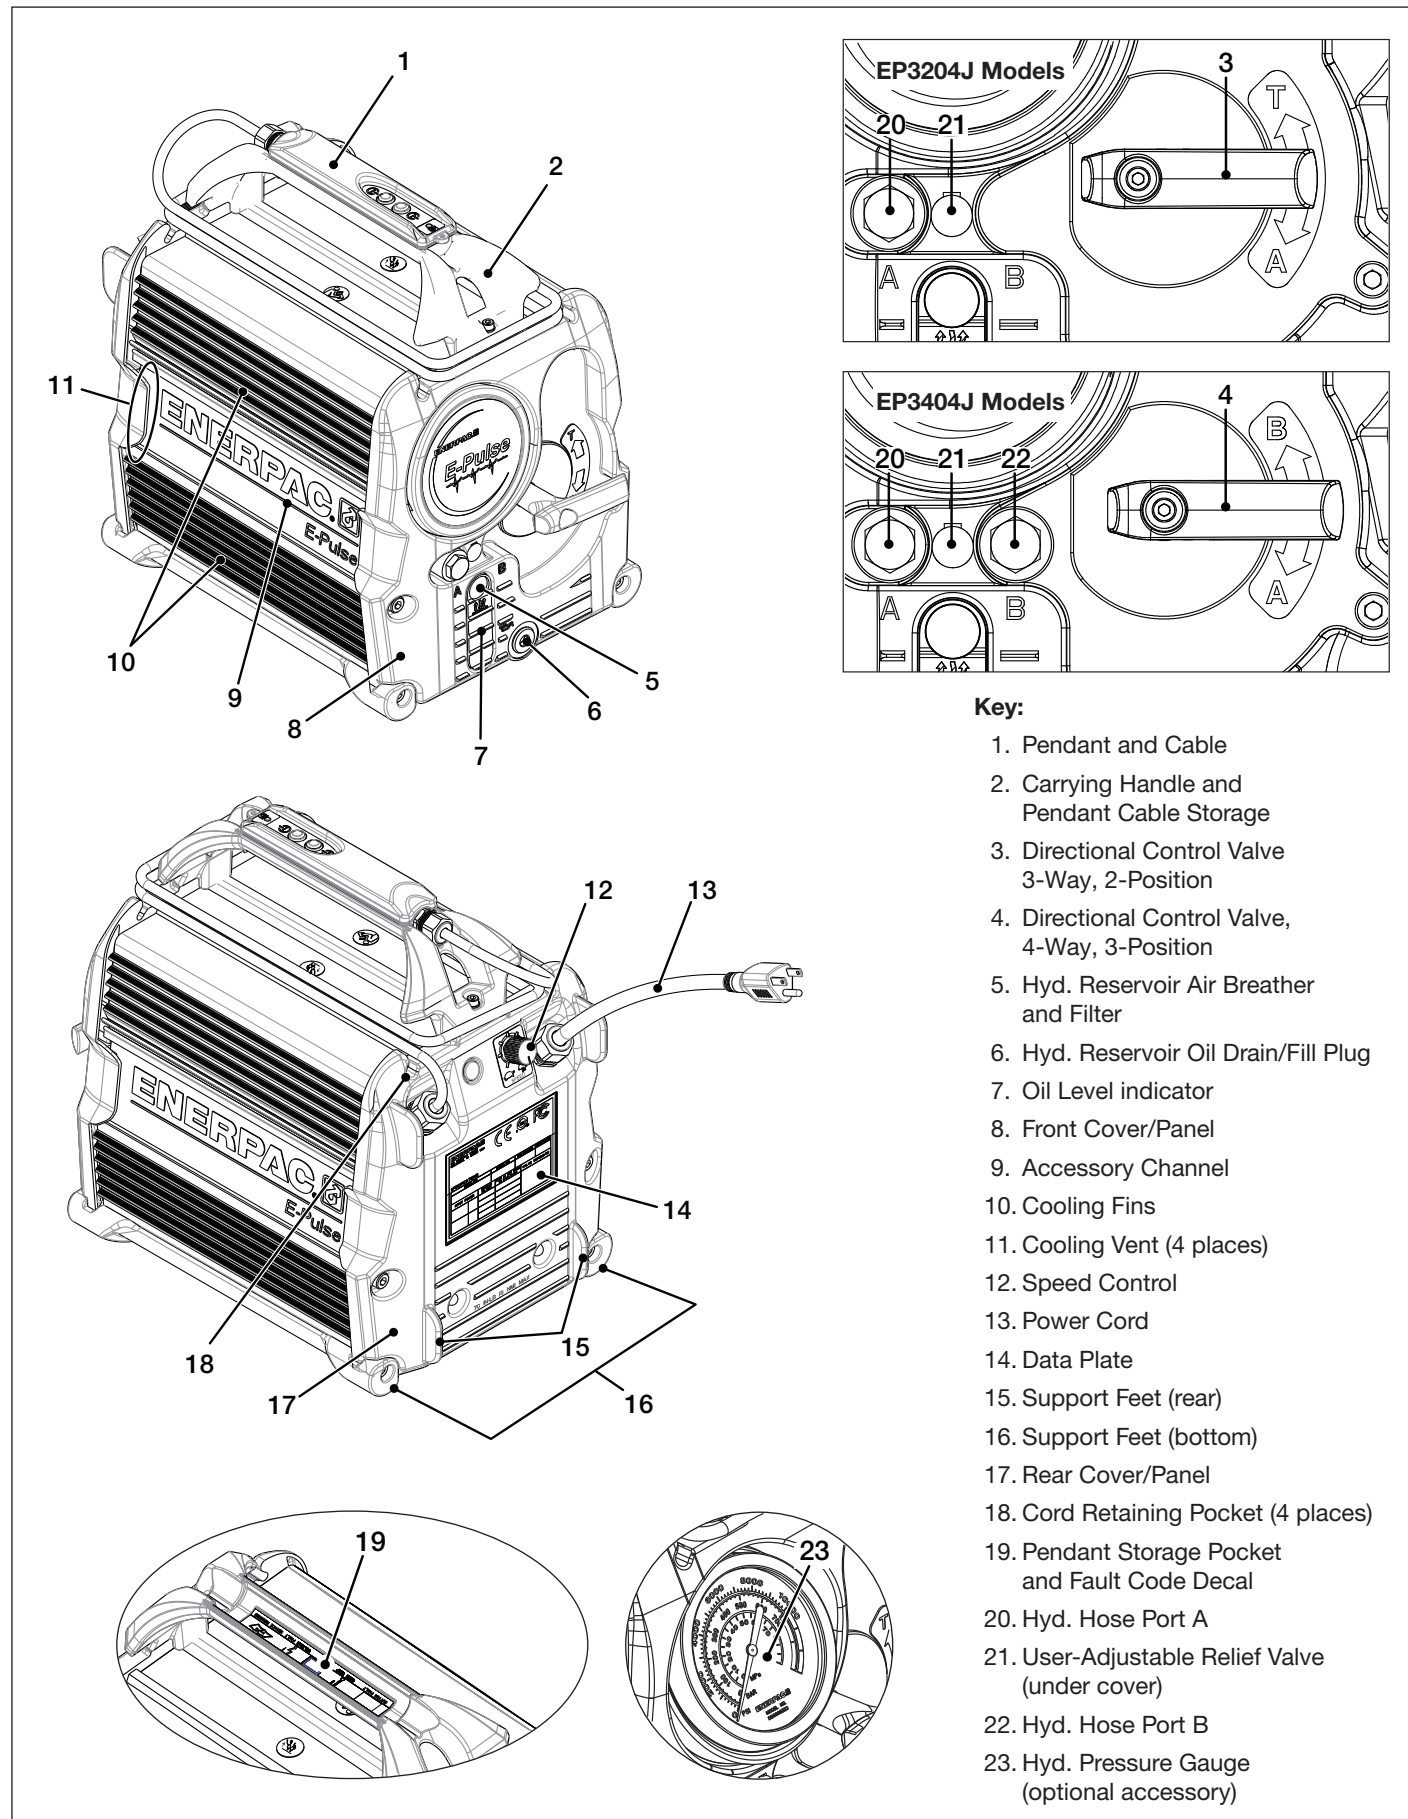

Figure 2, Major Features and Components, E-Series Electric Manual Valve Pumps
Refer to Figure 2 for a diagram of the pump's major features and components.
Hydraulic hose ports are located above the oil level indicator, to the left of the control valve lever. See Figure 2, items 20 and 22. EP3404J models contain both "A" and "B" ports. EP3204J models contain only port "A". Both ports have 3/8" NPTF threads.